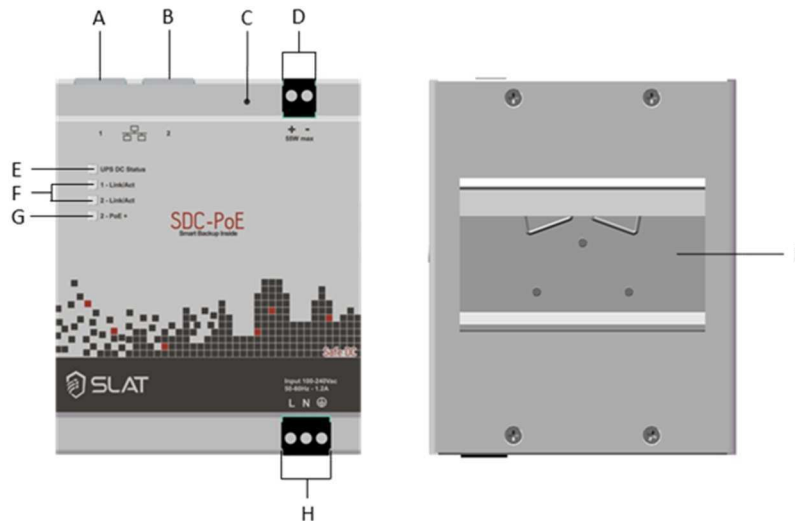

Figure 6.2: Product view
- For prolonged storage or disconnection, switch off the mains then press the stop button back-up function (see Figure 6.2 in chapter 6.4: Disconnect backup push-button).